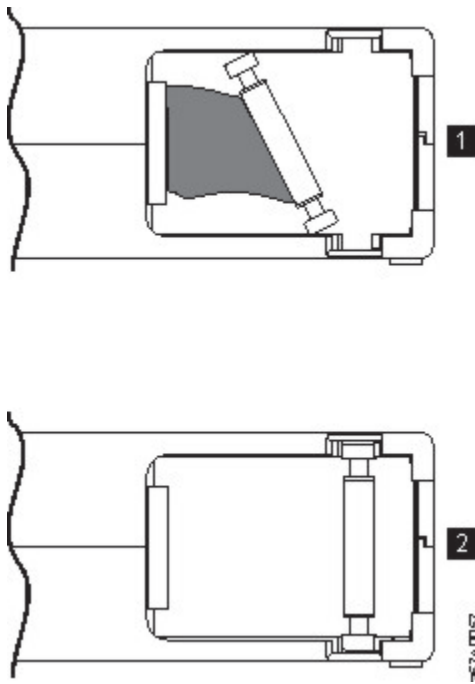

Figure 93. Leader pin in the incorrect and correct positions
- Check that the leader pin is properly seated. See **2** in Figure 93 on page 167.
- Do not drop the cartridge. If the cartridge drops, slide the cartridge door back and ensure that the leader pin is properly seated in the pin-retaining spring clips. See **2** in Figure 93 on page 167. If the leader pin becomes dislodged, go to “Repositioning or reattaching a leader pin” on page 166.
Improper placement of leader pin. See Figure 93 on page 167.
A leader pin that is improperly seated inside a cartridge interferes with the operation of the drive. Figure 93 on page 167 shows a leader pin in the incorrect **1** and correct **2** positions.